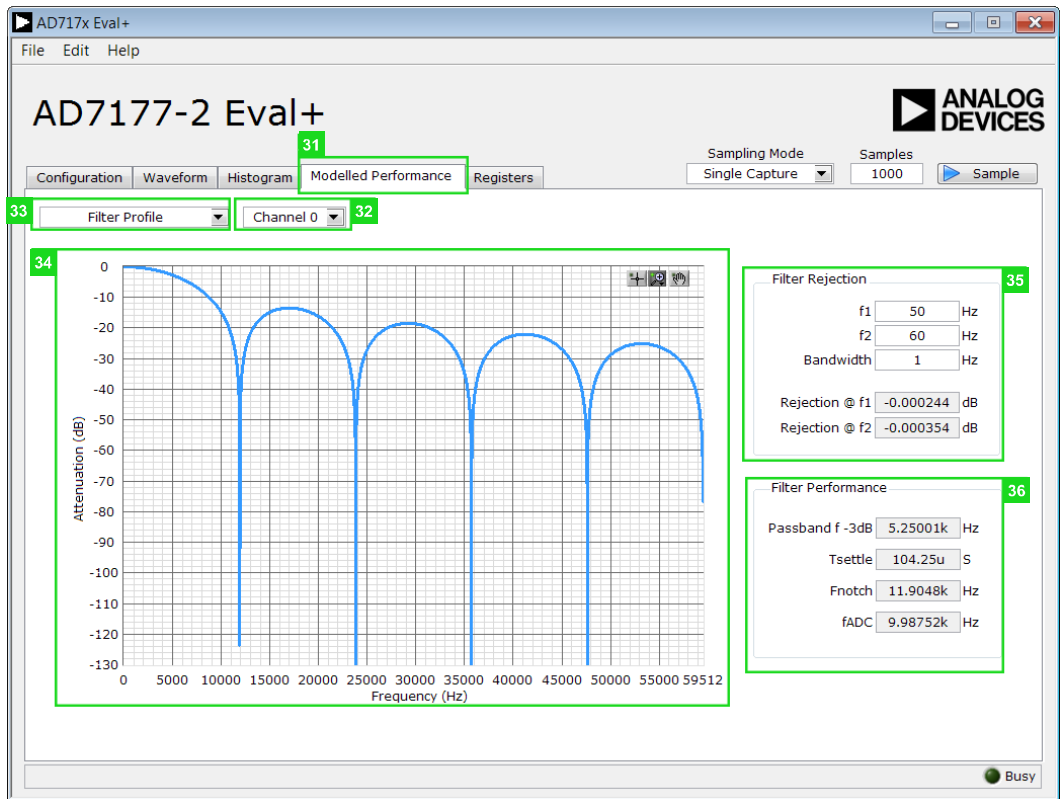

Figure 20. Filter Profiles of the AD7177x Eval+ Software
There are three main options in the **Modelled Performance** tab: **Filter Profile**, **Filter Step Response**, and **Timing Diagram/Power**. These options can be selected from the dropdown list (33). Figure 20 shows this tab when **Filter Profile** is selected.